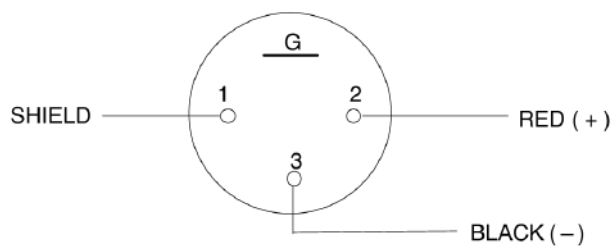

FIGURE 3: A400XLR CONNECTOR TERMINALS
2. Connect cable to A400XLR Connector using two-conductor shielded microphone cable (Figure 3).